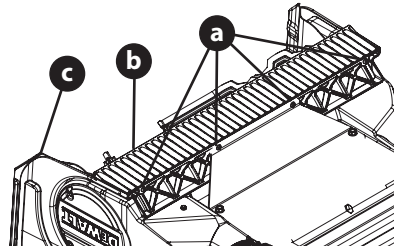

Figure 20
4. Remove the four star screws (a) securing the shave plate (b) to the auger housing (c) (Figure 20).